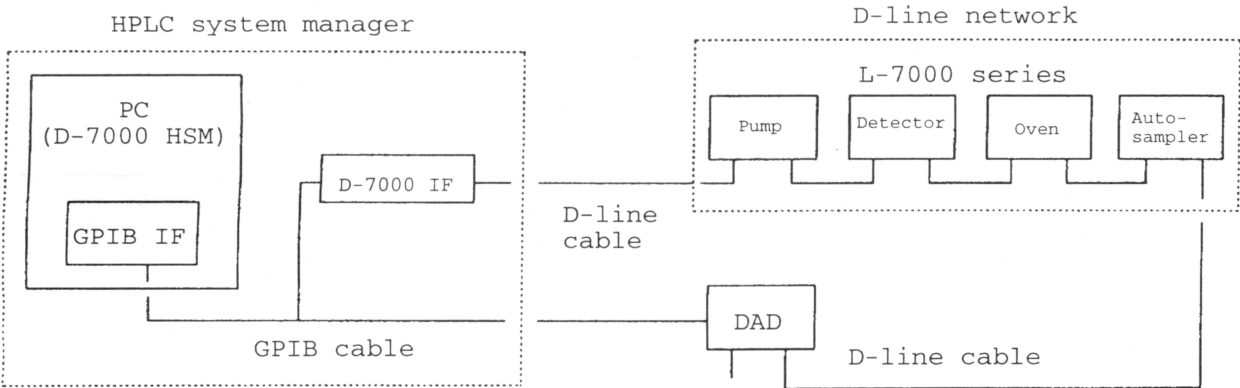

Fig. 5-1 HPLC System Configuration
Figure 5-1 shows the configuration of the HPLC system. The components ranging from the PC that contains the D-7000 HPLC system manager software and GPIB (General Purpose Interface Bus) communication interface (IF), up to the D-7000 interface (D-7000 IF) connected via the GPIB is referred to as the "HPLC system manager".